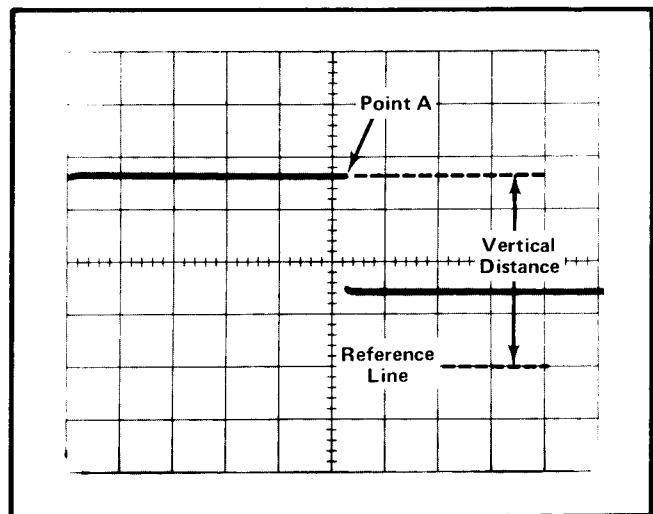

Fig. 1-5. Measuring instantaneous voltage with respect to some reference.
7. Measure the distance in divisions between the reference line and the point on the waveform at which the DC level is to be measured. For example, in Fig. 1-5 the measurement is between the reference line and point A.
EXAMPLE: Assume the vertical distance measured is 3.6 divisions (see Fig. 1-5) and the waveform is above the reference line using a 10X probe with a VOLTS/DIV setting of 0.5 V.